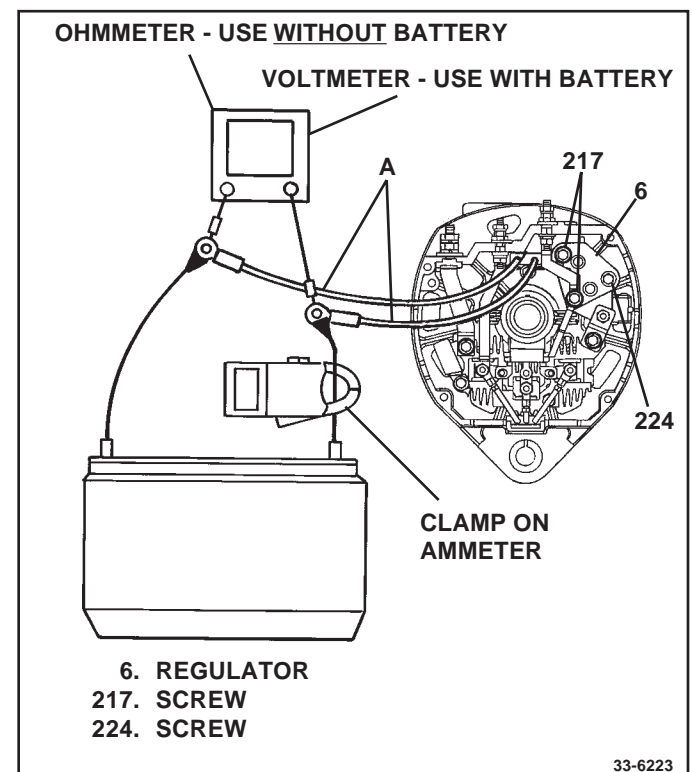

Figure 13 Checking Field Coil Resistance
3. Disconnect 2 field leads (A) from regulator (6) (See Fig. 13), by removing 2 insulated regulator attachment screws (217). Use ohmmeter (or voltmeter, ammeter and battery) to check resistance of field coil.